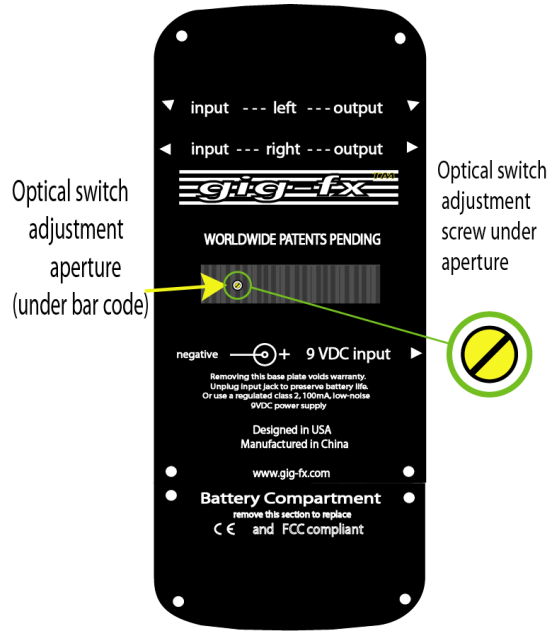

FIG 1
5. Locate bar code label on the base plate and either remove it or feel around for the aperture underneath it and pierce the label with the screwdriver. Through this aperture you should be able to see a slotted screw head. This is the pot you need to adjust. See fig 1 below.